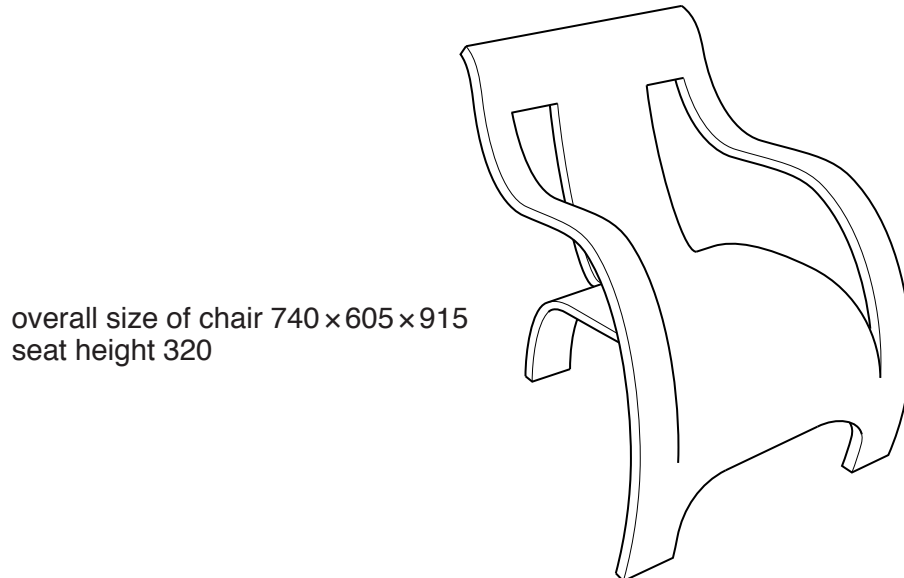

Fig. 1
- 1 Fig. 1 shows a chair made from one piece of bent plywood.